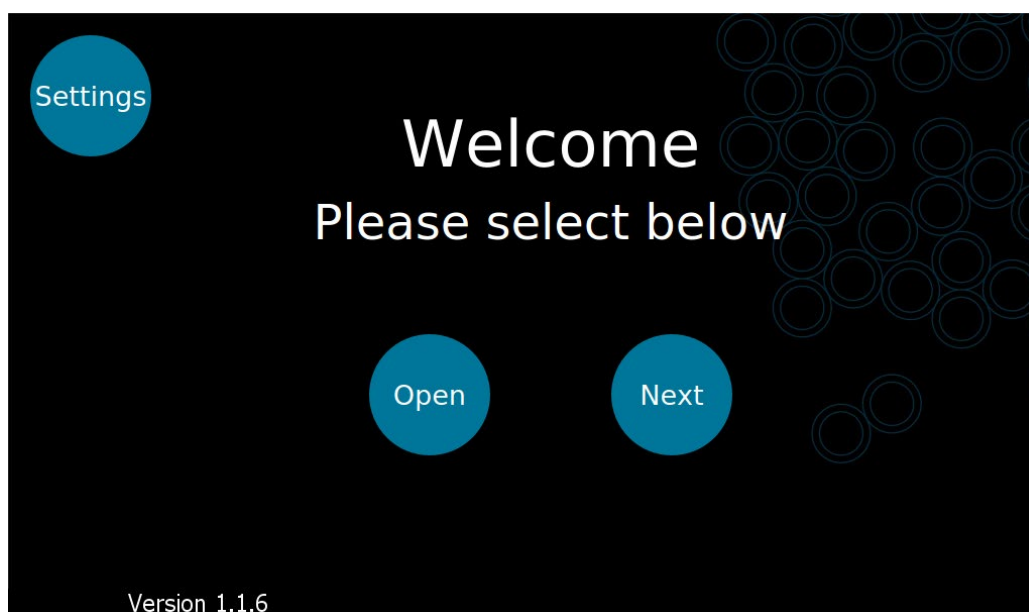

Fig. 3.4. The Xdrop™ instrument “Welcome” screen, press “open” to eject the drawer.
11. Push “Open” on the instrument touch screen to eject the drawer (Fig. 3.4).